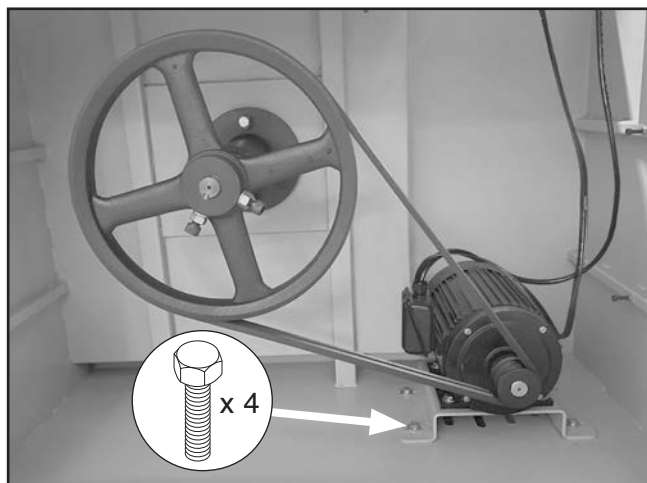

Figure 4. Location of motor bracket hex bolts.
5. Loosen (4) motor bracket hex bolts (see **Figure 4**).
2. Loosen (4) motor mounting hex bolts (see **Figure 4**).